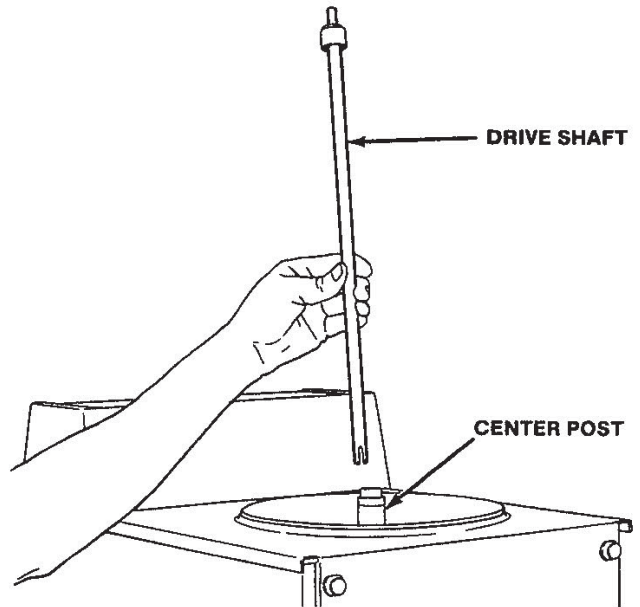

Figure 23. Removing Drive Shaft
5. Remove the drive shaft by pulling straight up and out of the vertical center post (Fig. 23).